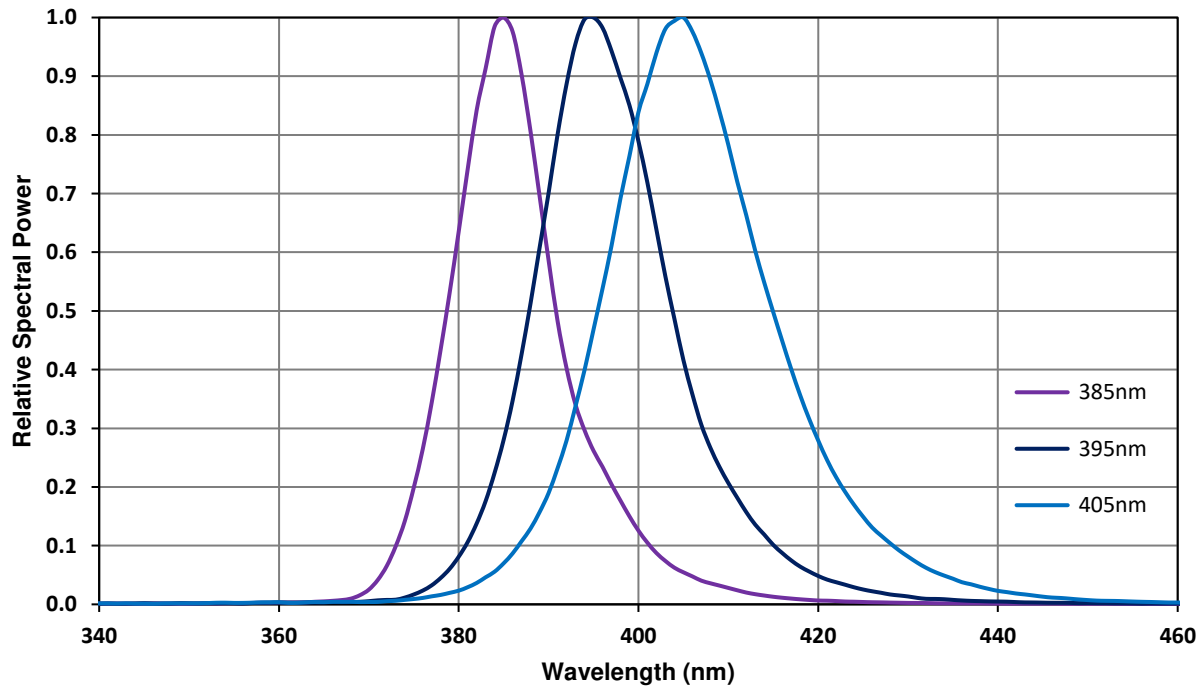

Figure 5: Typical relative spectral power vs. wavelength @ T_C = 25°C.
- Solder conditions per JEDEC 020D. See *Reflow Soldering Profile* Figure 5.